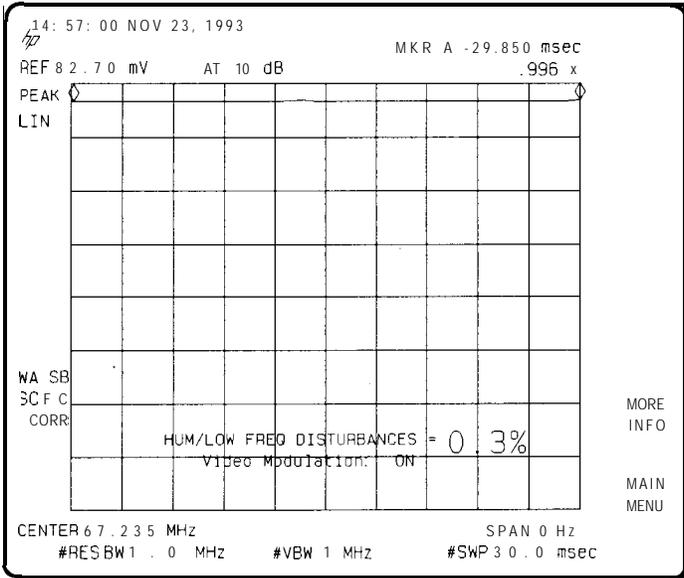

Figure 2-30. Hum Measurement
1. Select a channel or tune directly to the carrier to be measured. Make sure that the desired carrier is the highest on screen by adjusting the center frequency and/or span as needed. Turn off modulation (optional), then press Main 1 of 3 , HUM. See Figure 2-30.